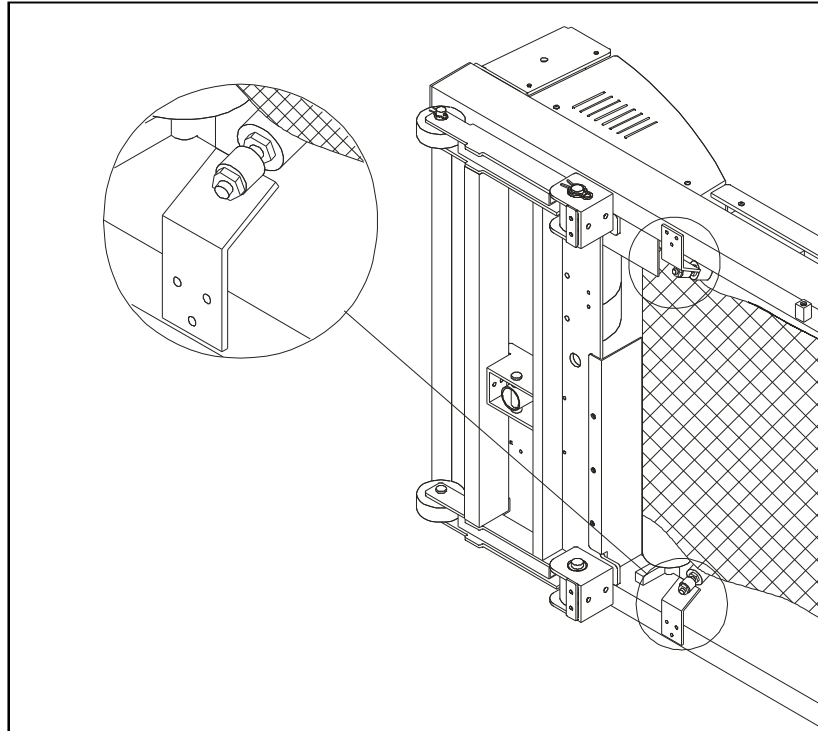

Fig.1
1. Lay the treadmill on its side. Make sure the running belt is in position in the tracks of the Belt Alignment Guides on the underside of the machine. (see Fig. 1).